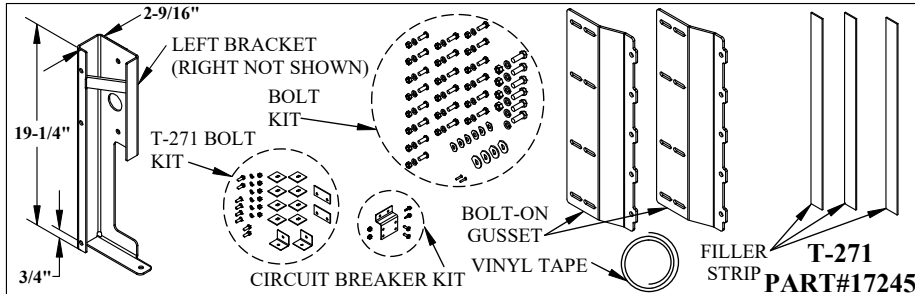

Figure 1: T-271 Part Identification.
2. Verify mounting bracket kit (Figure 1 and Table 1).